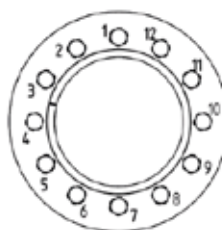

Fig. 5.10.5
- tighten through dynamometric wrench – balanced to a value approximately higher than 5% compared to the one foreseen in tab. 5.10.1 – the bolts of the shrink disc, by a continuous sequence (not crossing) see fig. 5.10.5 and during several phases (approx. 1/4 turn at a time) until no 1/4 turn is possible anymore;